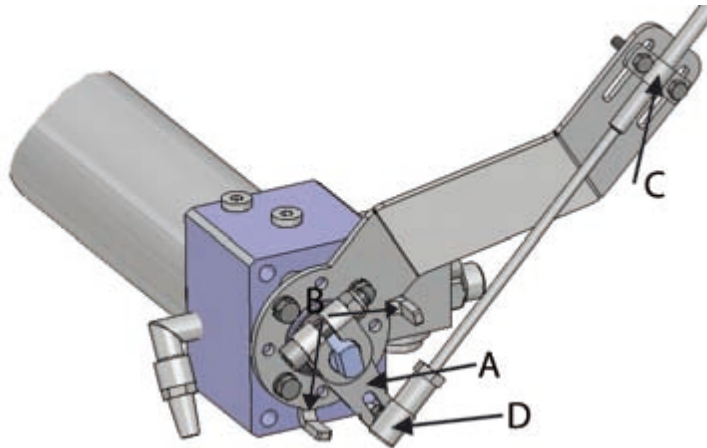

Figure 42. Attaching the operating lever
5. Place the lever (figure 42, point A) on the operating shaft so that it lies between the limiters on the support plate (figure 42, point B).
6. Attach the control cable with a fastener (figure 42, point C) to the support plate and with an angle joint (figure 42, point D) to the lever ball screw.
Fill the reservoir with oil before you start the engine. After you start the engine and put it into forward gear, the oil is transferred from the reservoir into the system and the pump automatically removes air from the system. If the oil level decreases in the reservoir, add some oil. There is a dipstick in the reservoir that you can use to check the oil level (figure 31). Occasionally move the hydraulic cylinder's operating lever back and forth (figure 42, point A) so that the cylinder fills with oil.